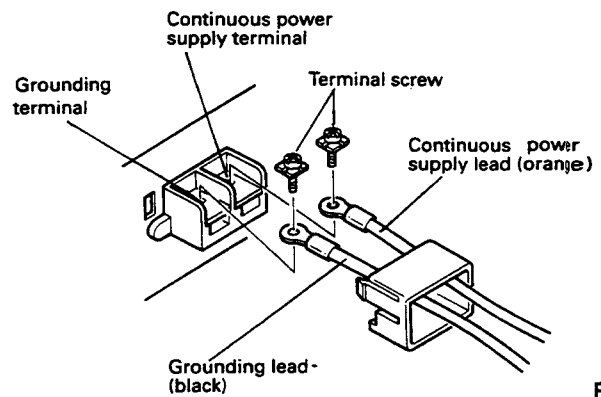

Fig. 10
3. Replace the screws removed in step 2 in the terminals and tighten them. (Fig. 10)